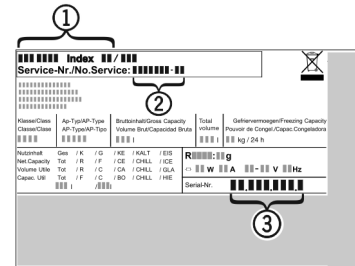

Fig. 11
- ▶ Read the appliance designation Fig. 11 (1), service No. Fig. 11 (2) and serial No. Fig. 11 (3) off the model plate located inside the appliance on the left-hand side.
- ▶ Notify the customer service, specifying the fault, appliance designation Fig. 11 (1), service No. Fig. 11 (2) and serial No. Fig. 11 (3).